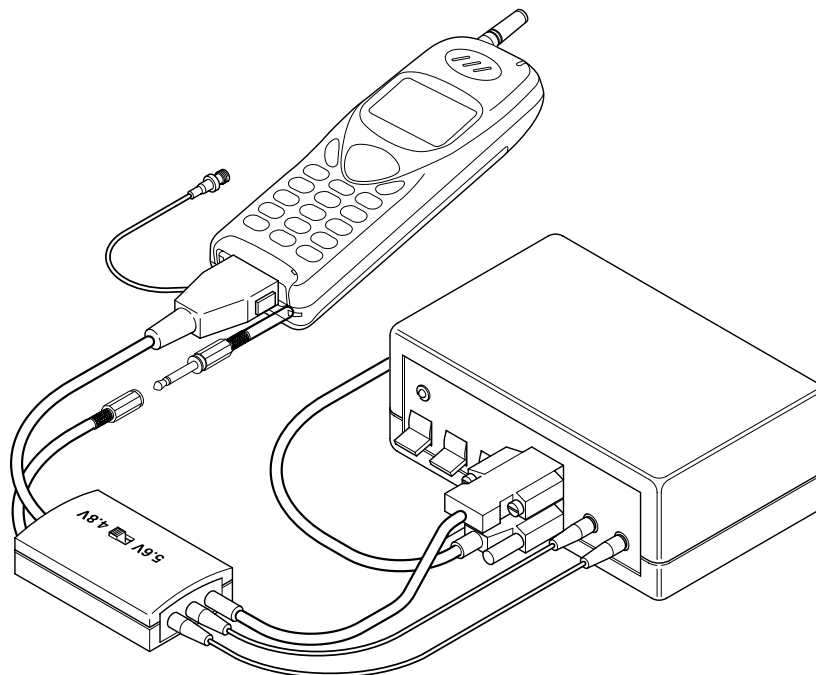

Figure 6: Interface Unit
To allow accurate measurement of the complete unit the test equipment must be connected as shown in figure 6. The C Test Setup must be used to enable repair to C since repair/replace is complete the assembly must be tested and calibrated with the rigs and tools connected as shown in figure 6.
Figure 6 shows a typical setup for testing the G450 unit. The channel board is supplied on floppy disk should be installed onto the drive of the personal computer.
1. Figure 6 Connect the test equipment into test mode configuration.